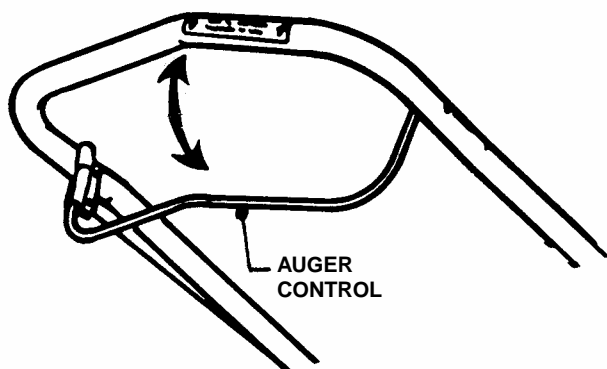

FIGURE 2.1
2.1.2. Check auger control to insure it works freely. Engage and disengage auger control to insure proper engagement. See Figure 2.1.